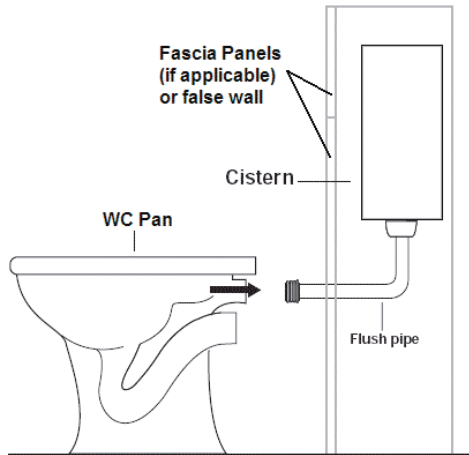
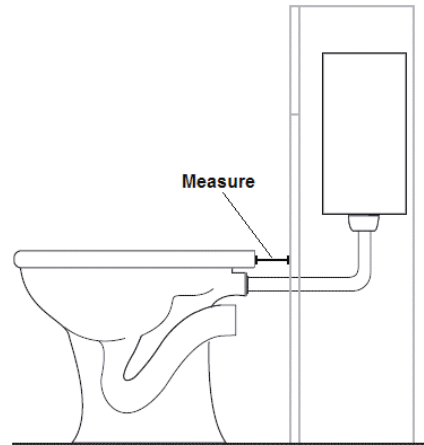

Fig. 9
Fig. 10
8. Push the WC pan back into position so that the flush pipe (F) enters the water inlet in the rear of the pan. (See **Fig. 9**). Measure the distance between the rear of the WC pan and the front of the WC unit or wall (including any front panel or tiles, if applicable). Make a note of this measurement. (See **Fig. 10**).